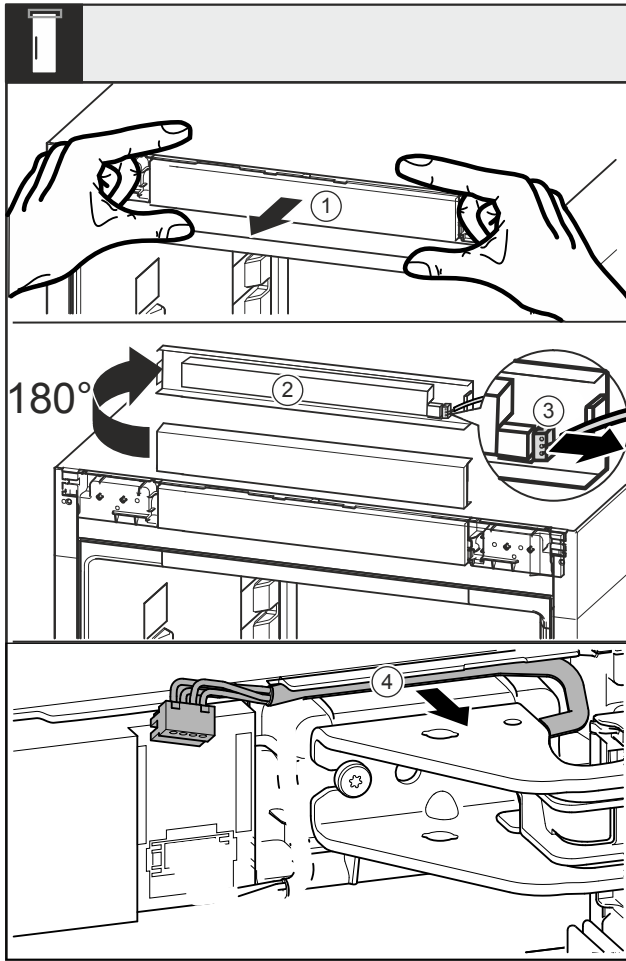

Fig. 17
- Loosen the trim Fig. 17 (1) towards the front.
- Turn the trim Fig. 17 (2) upwards by 180°.
- Push the locking tab on the plug Fig. 17 (3) backwards and remove the plug carefully.
- Release the cable over the swap bearing block Fig. 17 (4) from the guide.